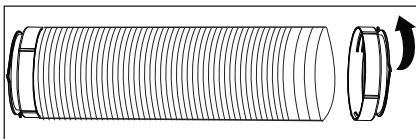

Fig. 6
3. Extend the other side of the hose and screw it to adaptor B (Fig. 6).